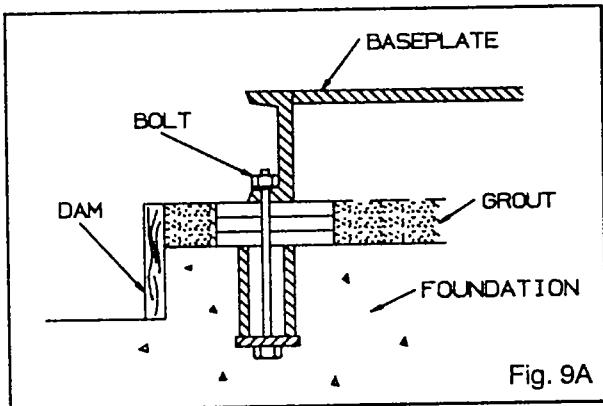

Fig. 9A
2. Build dam around foundation. Thoroughly wet foundation (Fig. 9A).